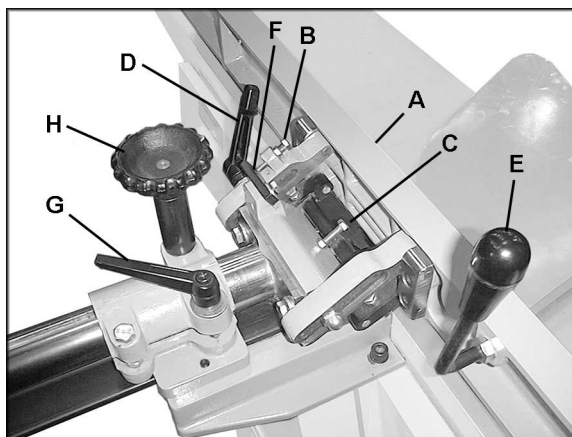

Figure 22
The fence (A, Figure 22) tilts backward and forward to 45 degrees. It has a 90-degree stop (B, Figure 22) and a 45-degree stop (C, Figure 22).
1. Loosen the lock handle (D, Figure 22) and tilt the fence forward using the handle (E, Figure 22). NOTE: Lift up slightly on the fence while tilting it, to prevent scratching the table surface.
2. Retighten lock handle (D, Figure 22).
1. Loosen the lock handle (D, Figure 22) and pivot the stop block (F, Figure 22) out of the way.
2. Tilt the fence using the handle (E, Figure 22). NOTE: Lift up slightly on the fence while tilting it to prevent scratching the table surface.
3. Retighten lock handle (D, Figure 22).
1. Loosen lock handle (G, Figure 22) and rotate handwheel (H, Figure 22); counterclockwise for forward fence movement, clockwise for backward fence movement.
2. When desired position is reached, securely tighten lock handle (G, Figure 22).
1. Loosen lock handle (D, Figure 22) and tilt fence until it contacts the 45-degree stop (C, Figure 22).
3. If adjustment is necessary, loosen the hex nut on the stop screw (C, Figure 22) and turn the stop screw until the fence is flush with the protractor.